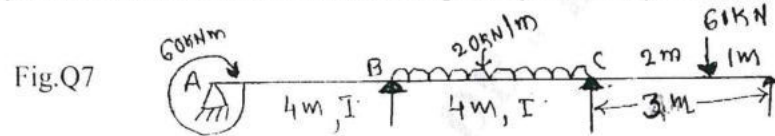

Fig.Q7
- 7 Analyze the continuous beam shown in Fig.Q7 by flexibility method. Draw BMD.